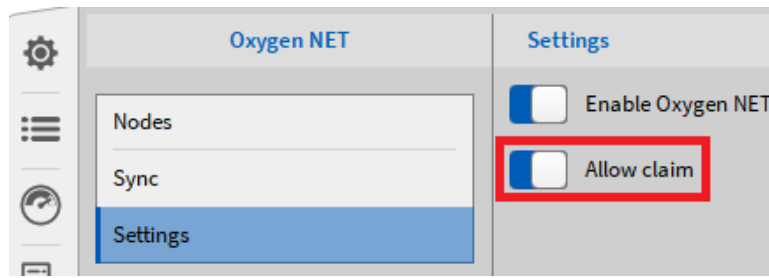

Fig. 15.14: Allow claiming of slave devices
- Select *Allow claim* on the devices that shall be configured as slaves (see Fig. 15.14). Without enabling *Allow claim*, the Slave units cannot be claimed by the Master unit.